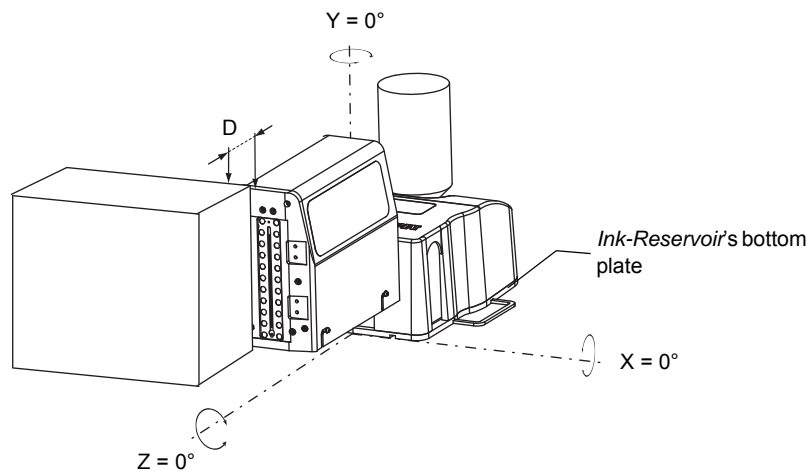

Figure 12 - Correct mounting of the print head
- The nozzles must be as close as possible (distance D) to the print target **but not in contact**. Refer to Figure 12 above.